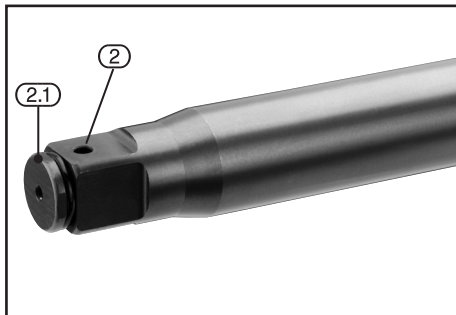

FIG.20
10.1 ANVIL (IMPACT WRENCH) – FIG.20
- Ensure the anvil ring (2.1) and lock pin holes (2) are correctly maintained and if damaged the anvil is replaced immediately before work commences.